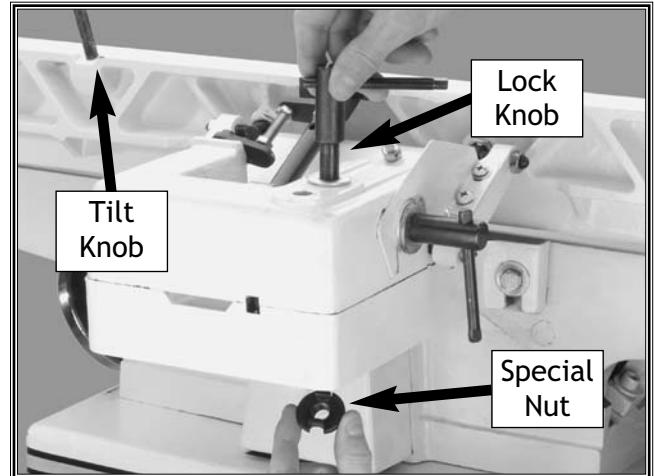

Figure 15. Installing lock knob and special nut.
4. Place the 1/2" flat washer over the lock knob and install the special nut from underneath the fence support as shown in **Figure 15**.